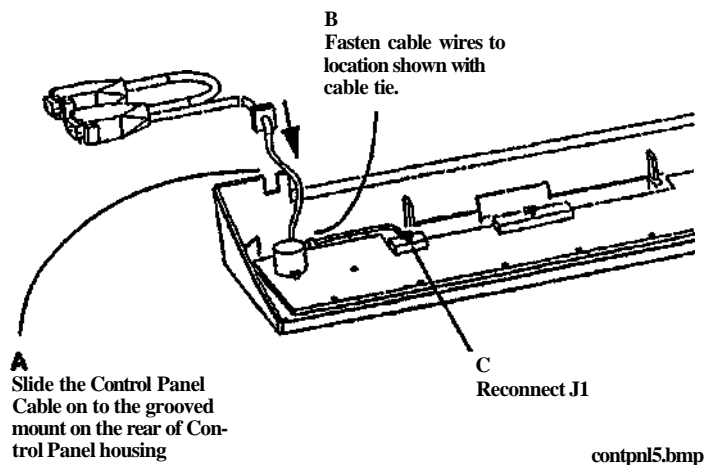

Figure 3 Replacement of the Control Panel cable
2. (Figure 3); Install the Control Panel Cable.